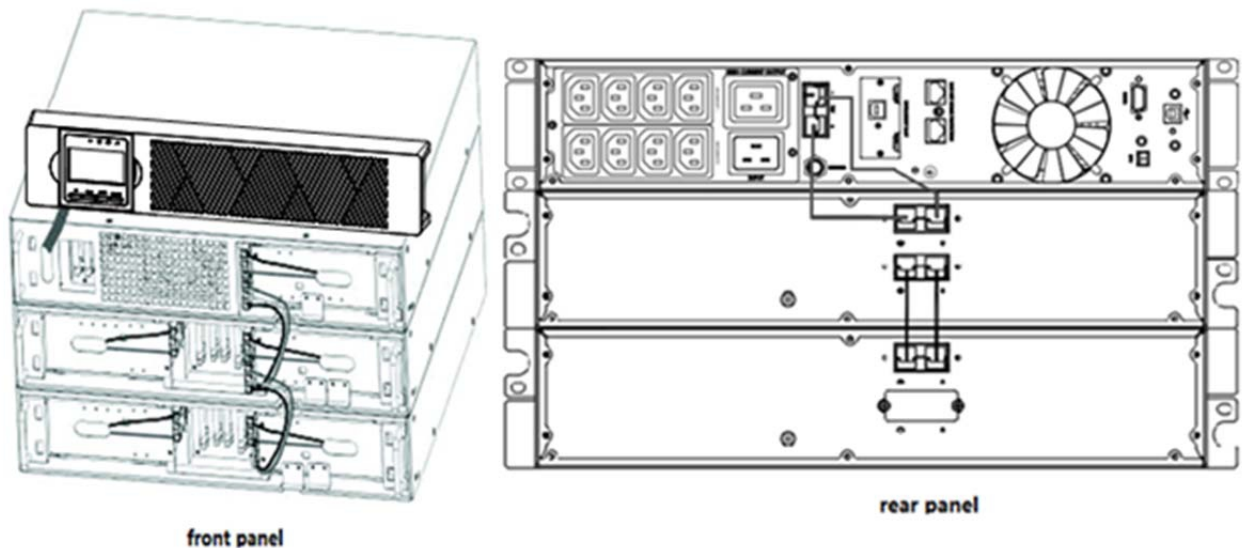

Figure 10 Typical EBP Installation
- c) For the bottom (or only) EBP, remove the EBP cable knockout on the top of the EBP front cover. See Figure 10 for the location of the top EBP cable knockout.
- d) If you are installing more than one EBP, for each additional EBP remove the EBP cable knockout on the top and bottom of the EBP front cover. See Figure 10 for the location of the EBP cable knockouts.
- e) Plug the EBP cable(s) into the battery connector(s) as shown in Figure 10. Up to four EBPs may be connected to the UPS. Connect black to black. Press the connector tightly together to ensure a proper connection.